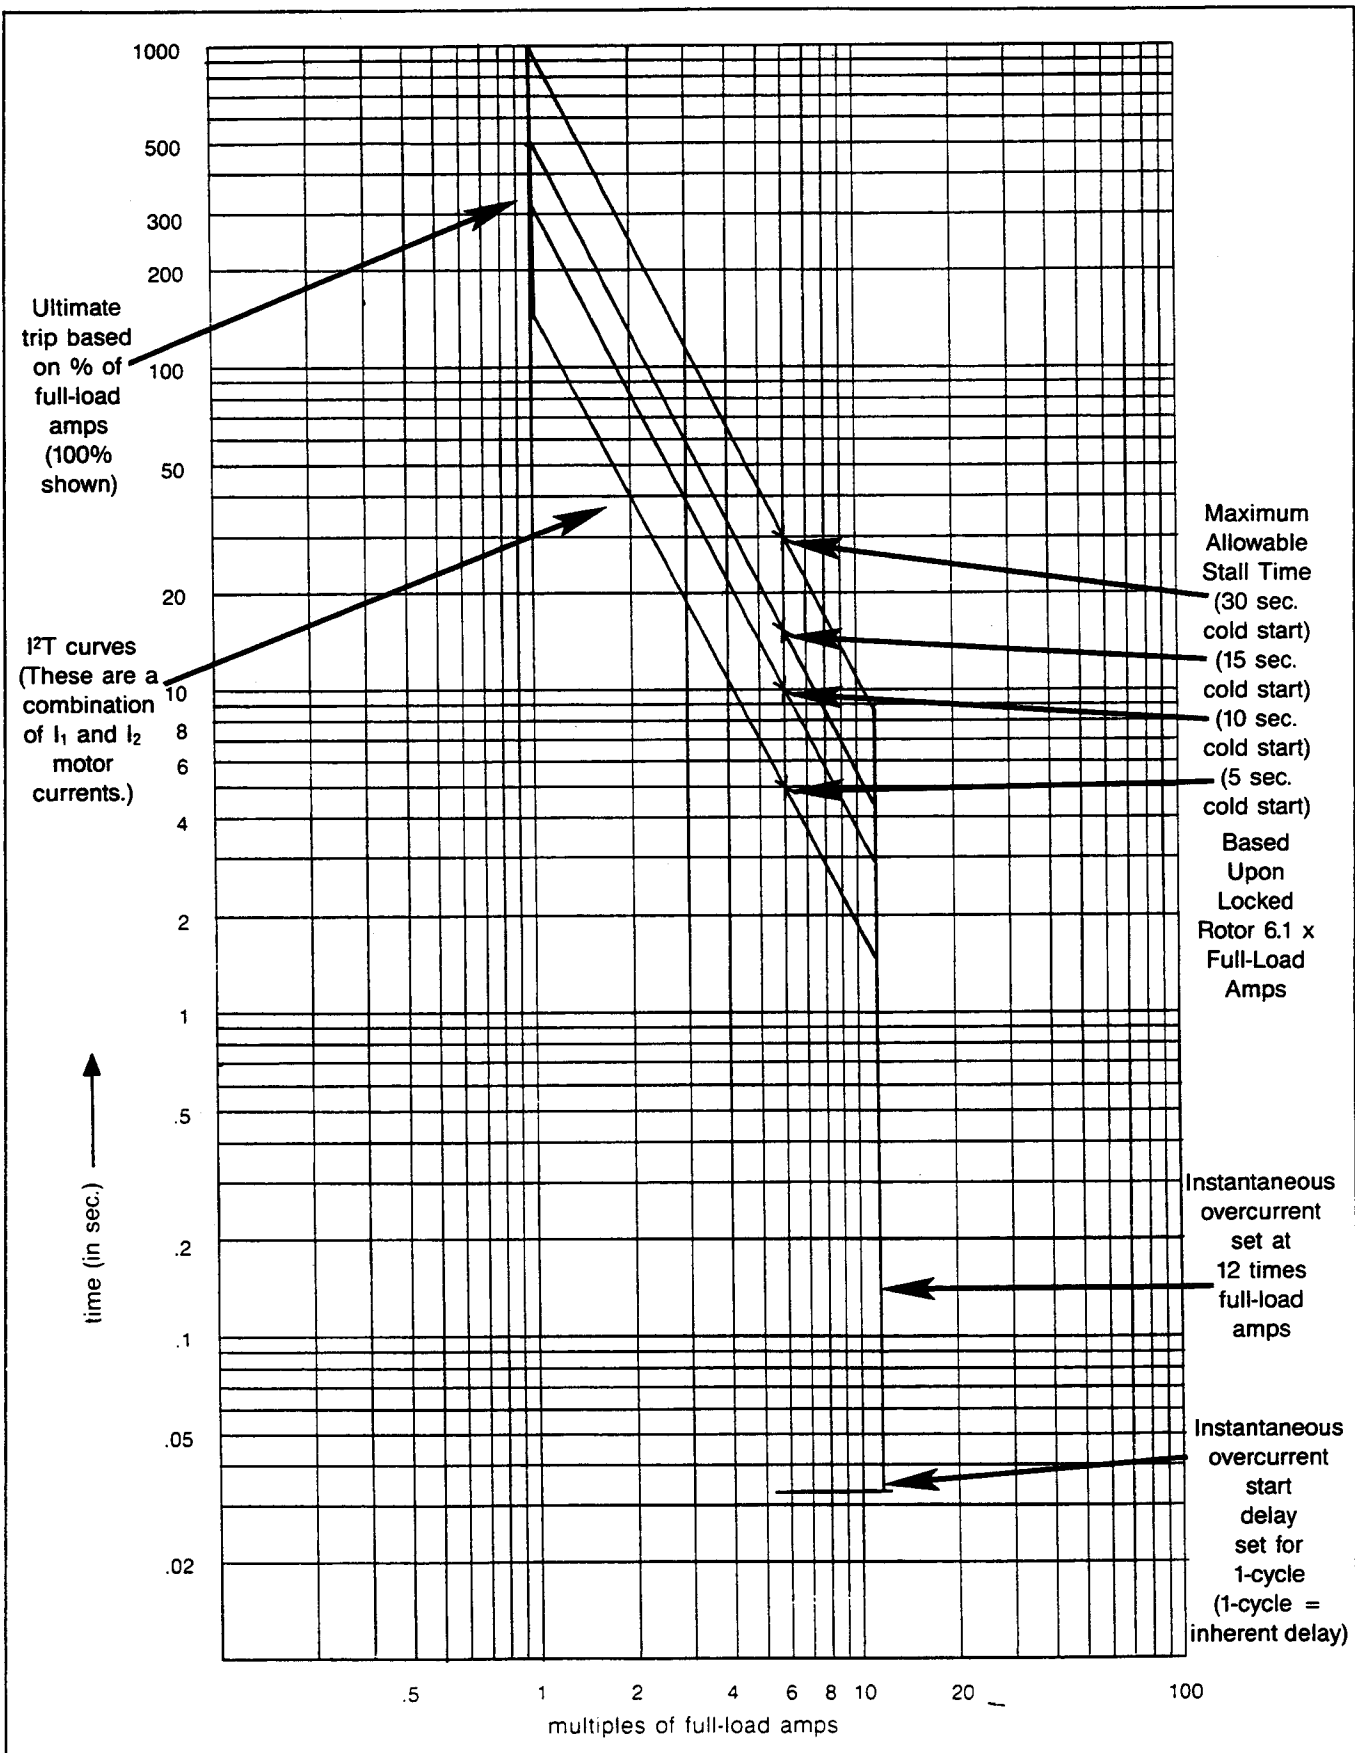

Figure 7.2 — Motor Protection Curve
7.1.3 Protection Curve — The motor protection curve defines the motor-versus-time relationship that exists as a direct result of the IQ-1000's hardware and programmed set point values. (See Figure 7.2.) Ideally this curve is located as close as possible to the motor damage curve, thus allowing maximum utilization of the motor without damage.
tection curve is given in the following subparagraphs. The typical curve shown in Figure 7.2 is the result of the factors listed in these explanations.
7.1.3.1 Instantaneous Overcurrent Function — The specific instantaneous overcurrent (item 10) set point used in Figure 7.2 is 12 times (1200%) full-load amperes (item 33). In general the instantaneous overcurrent set point for all applications should be a least 1.6 times the locked-current ratio if not provided by the motor manufacturer. The instantaneous overcurrent set point available range is 300 thru 1500% of full-load amperes.
7.1.3.2 Locked-Rotor Function — The family of curves shown in Figure 7.2 is based upon a locked-rotor current set point (item 12) of 6.1 times (610%) the full-load amperes function's (item 33) set point and a variable locked-rotor stall time set point (item 13).